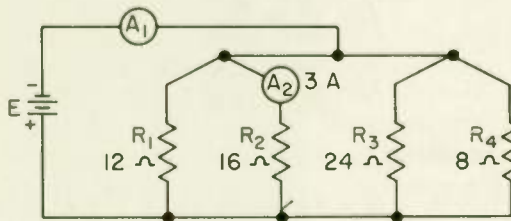

Fig. 8
5. The voltage applied to R_2 in Fig. 8 (a) is (is not) the battery voltage. The current through R_2 is (b) 3 amperes, and the resistance of R_2 is (c) 16 ohms. Using Ohm's law, the battery voltage must be (d) 48 volts.
EXAMPLE 1... Find the voltage E of the battery and the reading of the ammeter A_1 in Fig. 8.